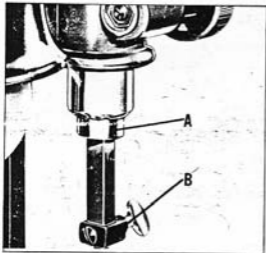

Fig. 14
To change cutting position of blade from front to side, or side to front, push up retainer seal (A) Fig. 14, and turn chuck (B) 90 degrees to the right or left and it will automatically lock itself in place. No further adjustment is necessary.